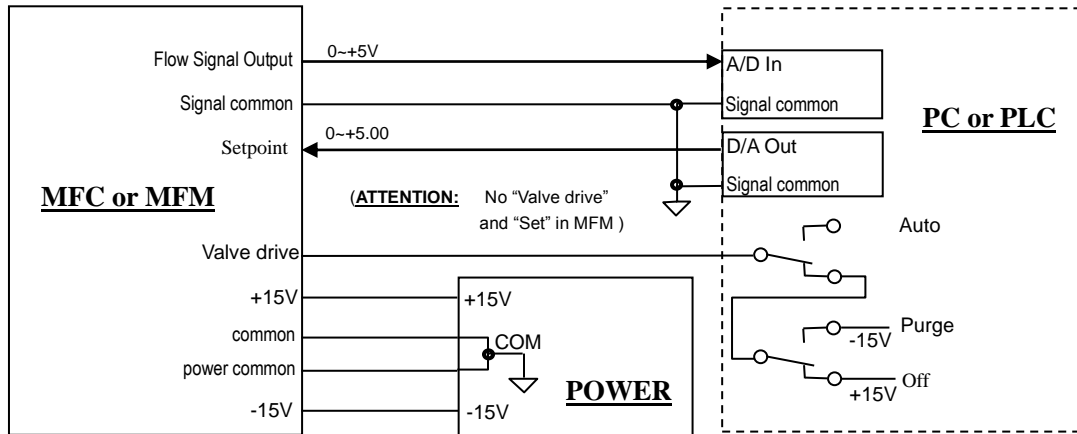

Figure 12. PC Directly Connection
If PC or PLC need perform the OFF and PURGE function of valve control, it could be accomplished by use two RELAYS (two sets) transfer contacts. One relay controls OFF and another one controls PURGE, when these two relays are not operating then it reaches to auto-control mode. Please be careful, it should be not caused short circuit by two relays simultaneously operating. Suggested relays connection as method as showing in Figure 12.
b. PC Directly Connection (Figure 12)
If users need PC performs "AUTO", "OFF" and "PURGE" functions, we suggested connection as showing as in Figure 12.
Please have the reference in Figure 1 and Figure 12, after MFC warming up, it could have PC startup.